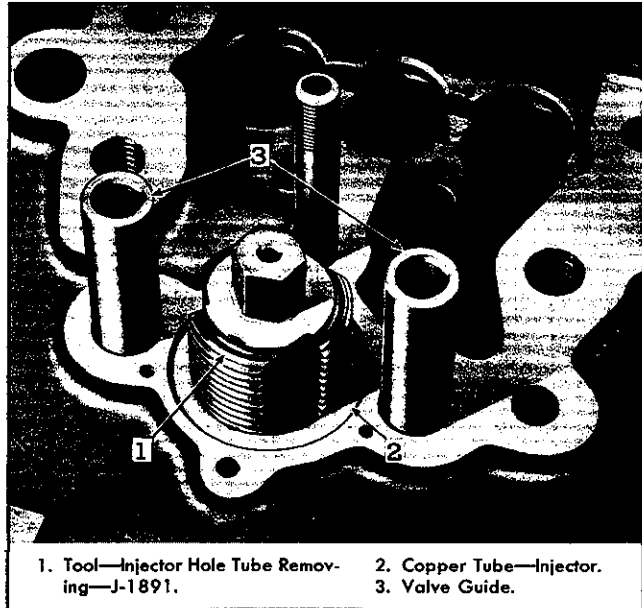

Fig. 26—Removing Injector Copper Tube from Cylinder Head with Tool J-1891 (Operation 1).
5. Suitably support the cylinder head, top side up, and screw threaded tool into upper end of copper tube as shown in Fig. 26.